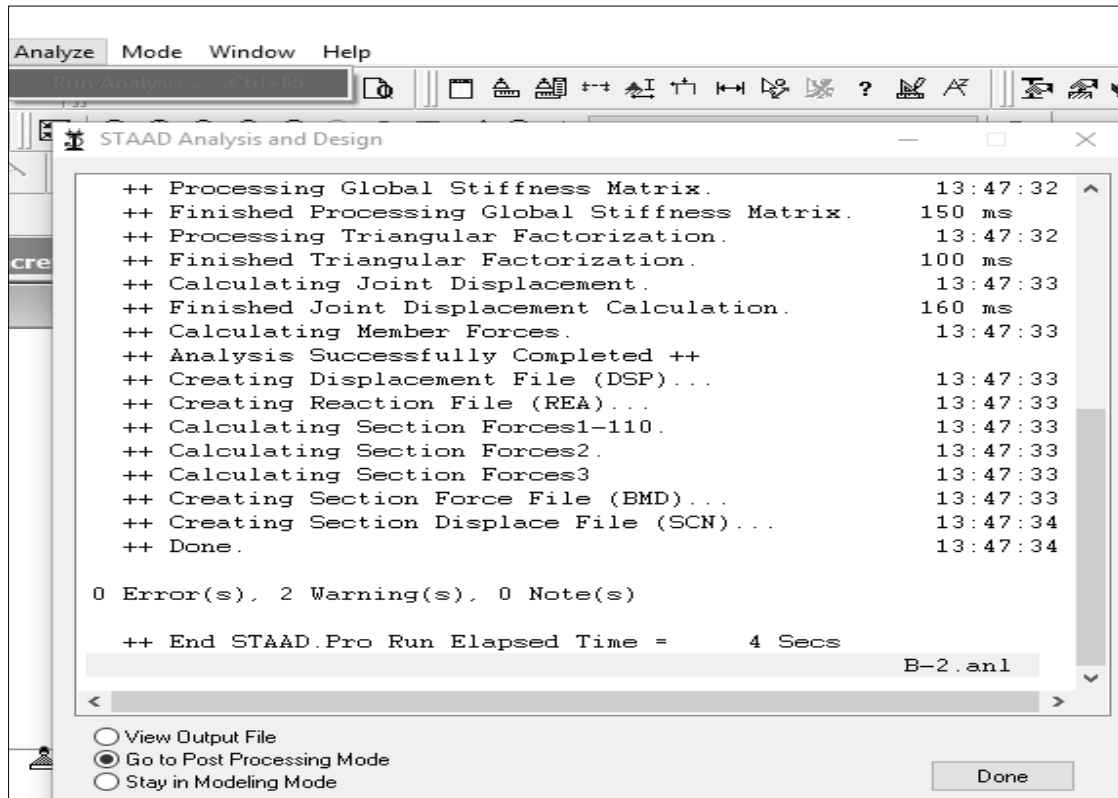
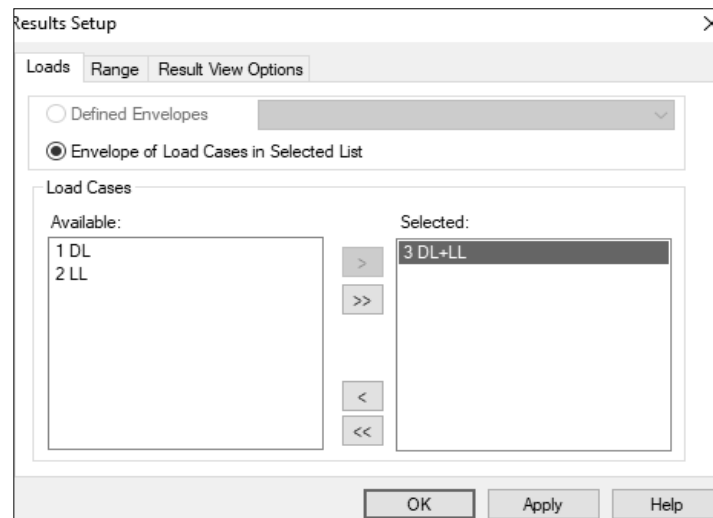

Fig: 4.13
Fig: 4.14
- At Menu bar →Analyze →Run Analysis →Go to post processing mode →Done →Selected load cases = DL+LL →Apply →OK. (Fig: 4.13 & Fig: 4.14)